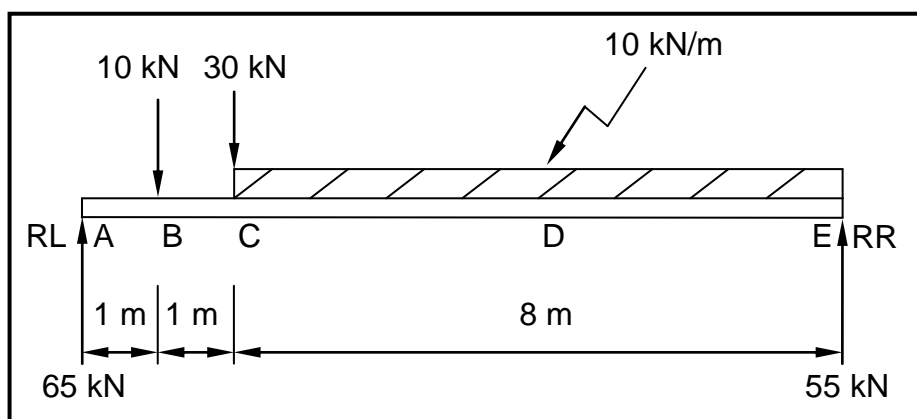

FIGURE 5.3
5.3 FIGURE 5.3 below shows the space diagram of a beam with a span of 10 metres with two point loads and a uniformly distributed load. Study the diagram and answer the questions that follow.
5.3.1 Deduce, from FIGURE 5.3, the value of the shear forces and draw the shear force diagram on ANSWER SHEET 5.3. Use scale 1 mm = 2 kN. (5)